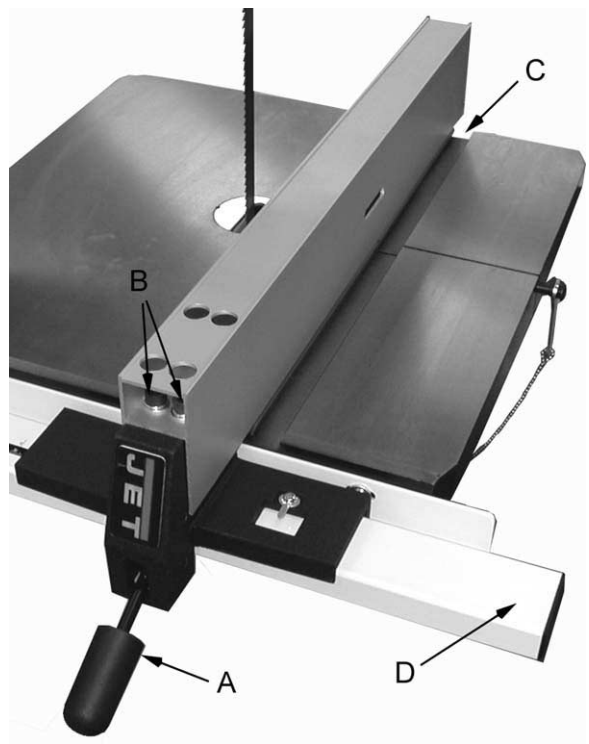
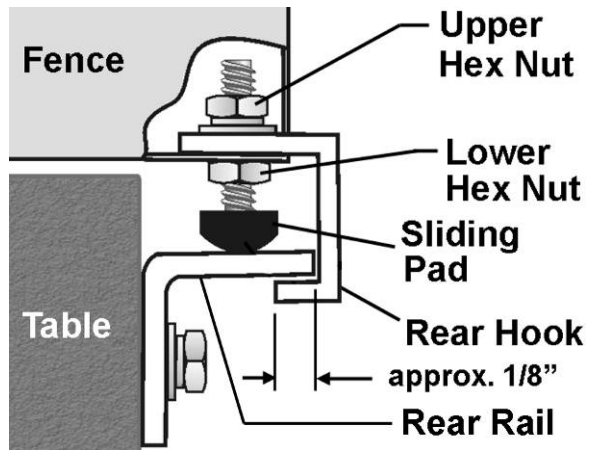

Figure 9
Figure 12
2. Place the fence assembly onto the *guide rail* (D, Fig. 9) and against the edge of the *miter slot* (C, Fig. 9). The hook at the rear of the fence should fit under the rear rail (see Figure 12).
3. Lock the fence by pushing down the *lock handle* (A, Fig. 9). Because the screws are only hand-tight, you can shift the fence slightly as needed until the fence is parallel the miter slot.
4. When the fence has been properly aligned to the miter slot, tighten the four *socket head cap screws* (B, Fig. 9) with a 6mm hex wrench. Make sure the fence remains parallel to the miter slot as you tighten the screws.
If the gap between fence and table is not consistent, loosen either of the *hex nuts* on the *hook* (Figure 12) and rotate the *sliding pad* until the fence/table gap is consistent across the full length of the table. When this is achieved, tighten both hex nuts.
Check the adjustment of the *hook* at the rear of the fence. The hook should be positioned so that it overlaps the rear rail by approximately 1/8" (Fig. 12). To adjust the hook, loosen the *upper hex nut* and slide the hook in or out as needed. Re-tighten upper hex nut.